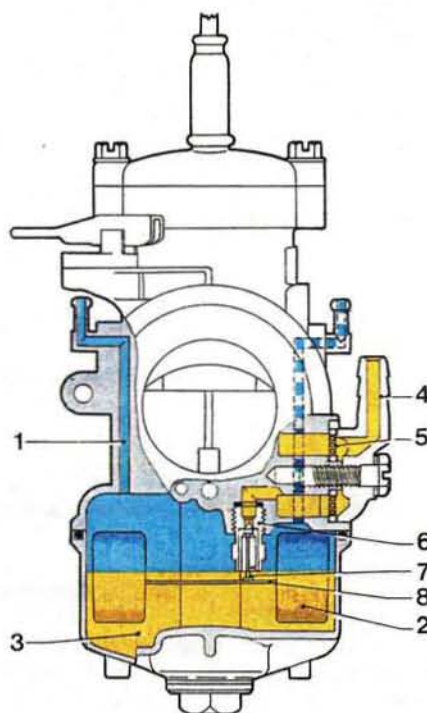

fig. 9
Fuel from the tank supplies the carburettor (fig.9) through a valve in which a float-controlled needle operates (2).